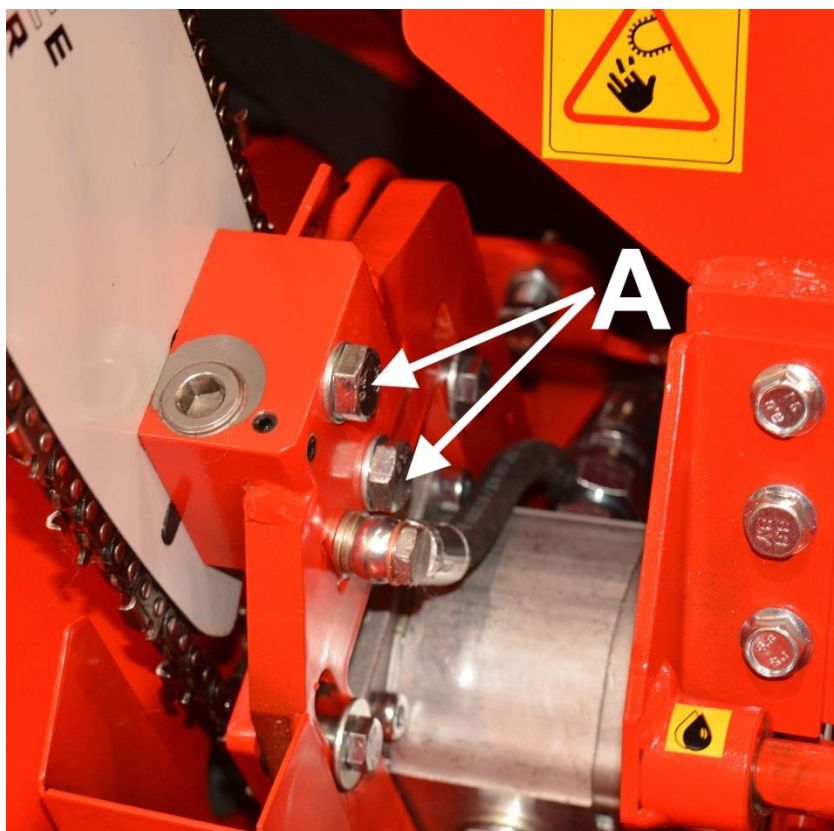

Figure 26.
2. Remove the beam's fastening bolts (A in Figure 26).